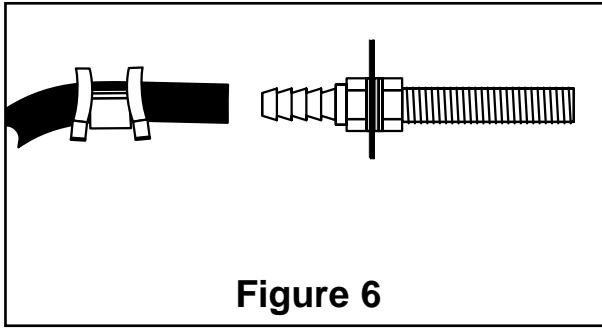

Figure 6
- K. Slide air line clamp over the air line. Push air line onto fitting covering all barbs, with pliers slide the air line clamp forward until it fully covers the barbed section (Figure 6).